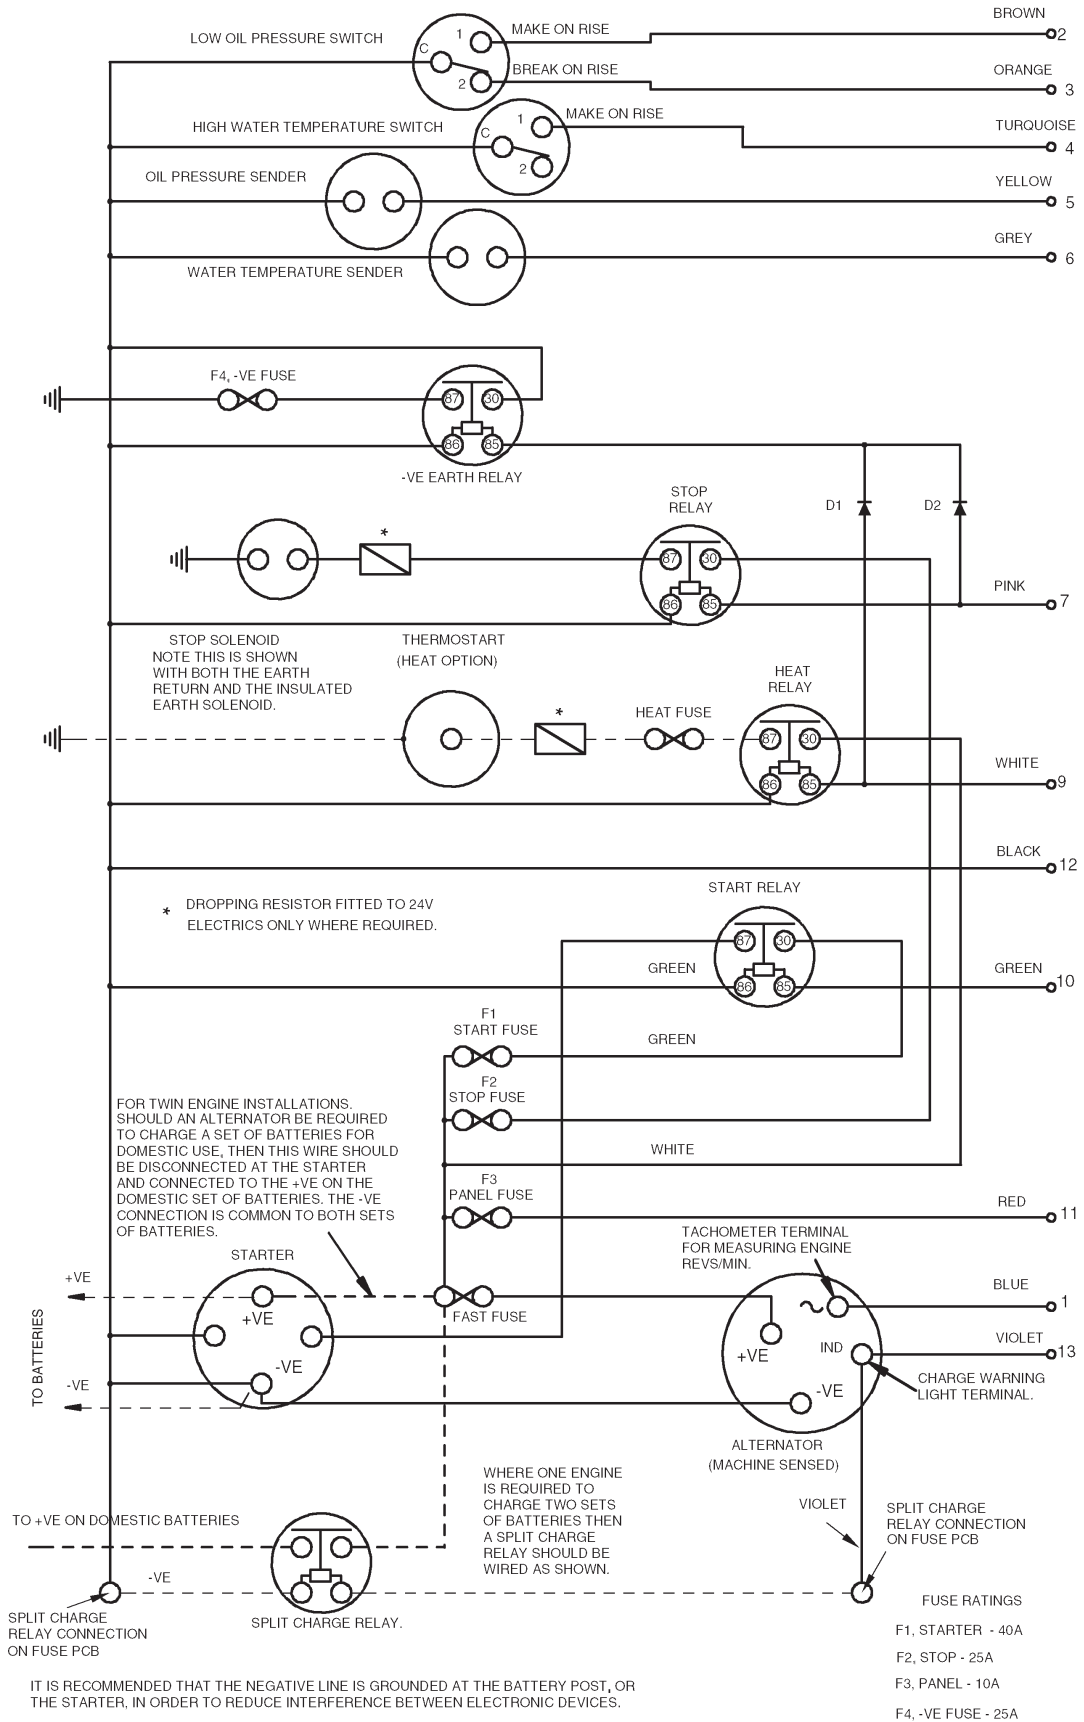

Figure 4 - M92 - insulated return - circuit diagram
- Figure 4 M92 - insulated return.